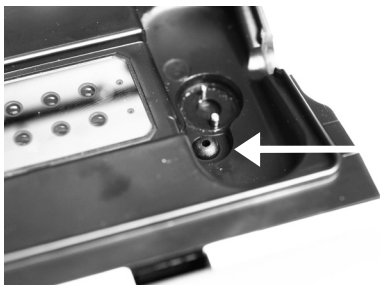

Fig. 7-20 Gas I/O Port
1. Open the SMC cover. Remove the black I/O port by grasping it with a hemostat or tweezers and firmly pulling upward (Fig. 7-20). Discard the old part.